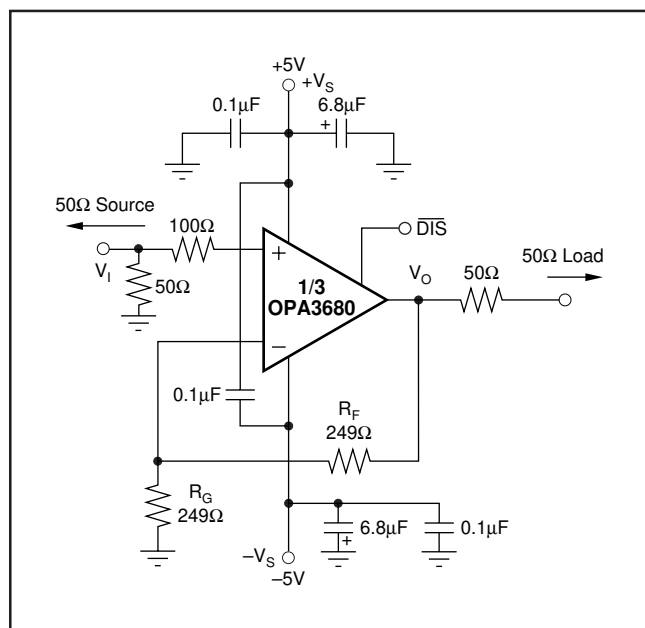
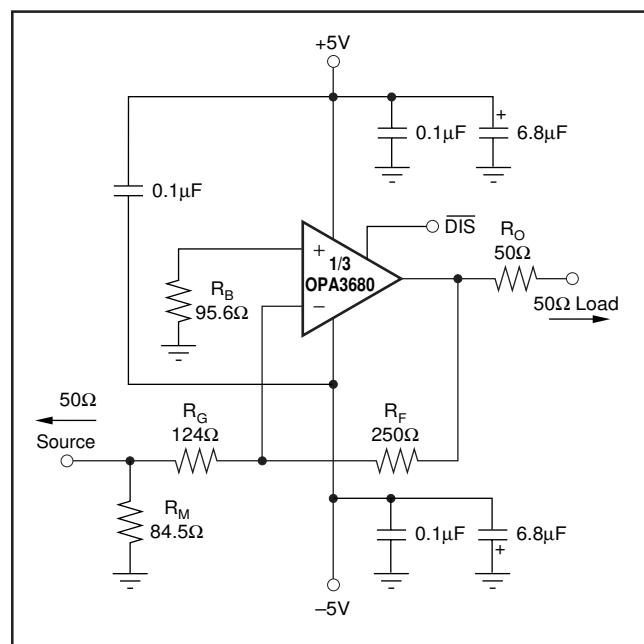

FIGURE 1. DC-Coupled,  $G = +2$ , Bipolar Supply, Specification and Test Circuit.
FIGURE 9. Gain of  $-2$  Example Circuit.
At  $T_A = +25^\circ C$ ,  $G = +2$ ,  $R_F = 250\Omega$ , and  $R_L = 100\Omega$ , unless otherwise noted. See Figure 1.
Figure 1 shows the DC-coupled, gain of +2, dual power supply circuit configuration used as the basis of the  $\pm 5\text{V}$  Specifications and Typical Performance Curves. For test purposes, the input impedance is set to  $50\Omega$  with a resistor to ground and the output impedance is set to  $50\Omega$  with a series output resistor. Voltage swings reported in the specifications are taken directly at the input and output pins, while output powers (dBm) are at the matched  $50\Omega$  load. For the circuit of Figure 1, the total effective load will be  $100\Omega \parallel 498\Omega$ . The disable control line is typically left open to guarantee normal amplifier operation. Two optional components are included in Figure 1. An additional resistor ( $100\Omega$ ) is included in series with the non-inverting input. Combined with the  $25\Omega$  DC source resistance looking back towards the signal generator, this gives an input bias current cancelling resistance that
A good rule of thumb is to target the parallel combination of  $R_F$  and  $R_G$  (Figure 1) to be less than approximately  $125\Omega$ . The combined impedance  $R_F \parallel R_G$  interacts with the inverting input capacitance, placing an additional pole in the feedback network and thus, a zero in the forward response. Assuming a  $3pF$  total parasitic on the inverting node, holding  $R_F \parallel R_G < 125\Omega$  will keep this pole above  $400MHz$ . By itself, this constraint implies that the feedback resistor  $R_F$  can increase to several  $k\Omega$  at high gains. This is acceptable as long as the pole formed by  $R_F$  and any parasitic capacitance appearing in parallel with it is kept out of the frequency range of interest.
Voltage-feedback op amps exhibit decreasing closed-loop bandwidth as the signal gain is increased. In theory, this relationship is described by the Gain Bandwidth Product (GBP) shown in the specifications. Ideally, dividing GBP by the non-inverting signal gain (also called the Noise Gain, or NG) will predict the closed-loop bandwidth. In practice, this only holds true when the phase margin approaches  $90^\circ$ , as it does in high gain configurations. At low gains (increased feedback factors), most amplifiers will exhibit a more complex response with lower phase margin. The OPA3680 is compensated to give a slightly peaked response in a non-inverting gain of 2 (Figure 1). This results in a typical gain of +2 bandwidth of  $220MHz$ , far exceeding that predicted by dividing the  $300MHz$  GBP by 2. Increasing the gain will cause the phase margin to approach  $90^\circ$  and the bandwidth to more closely approach the predicted value of  $(GBP/NG)$ . At a gain of +10, the  $30MHz$  bandwidth shown in the Typical Specifications agrees with that predicted using the simple formula and the typical GBP of  $300MHz$ .
Frequency response in a gain of +2 may be modified to achieve exceptional flatness simply by increasing the noise gain to 2.5. One way to do this, without affecting the +2 signal gain, is to add a  $453\Omega$  resistor across the two inputs in the circuit of Figure 1. A similar technique may be used to reduce peaking in unity gain (voltage follower) applica-
Since the OPA3680 is a general purpose, wideband voltage feedback op amp, all of the familiar op amp application circuits are available to the designer. Inverting operation is one of the more common requirements and offers several performance benefits. Figure 9 shows a typical inverting configuration where the I/O impedances and signal gain from Figure 1 are retained in an inverting circuit configuration.
advantage that the noise gain becomes equal to 2 for a 50Ω source impedance—the same as the non-inverting circuits considered above. However, the amplifier output will now see the 100Ω feedback resistor in parallel with the external load. In general, the feedback resistor should be limited to the 100Ω to 1.5kΩ range. In this case, it is preferable to increase both the  $R_F$  and  $R_G$  values as shown in Figure 9 and then achieve the input matching impedance with a third resistor ( $R_M$ ) to ground. The total input impedance becomes the parallel combination of  $R_G$  and  $R_M$ .
The second major consideration, touched on in the previous paragraph, is that the signal source impedance becomes part of the noise gain equation and hence influences the bandwidth. For the example in Figure 9, the  $R_M$  value combines in parallel with the external 50Ω source impedance, yielding an effective driving impedance of  $50\Omega \parallel 84.5\Omega = 31.4\Omega$ . This impedance is added in series with  $R_G$  for calculating the noise gain (NG). The resultant NG is 2.6 for Figure 9, as opposed to only 2 if  $R_M$  could be eliminated as discussed above. The bandwidth will therefore be slightly lower for the gain of  $-2$  circuit of Figure 9 than for the gain of  $+2$  circuit of Figure 1.
The third important consideration in inverting amplifier design is setting the bias current cancellation resistor on the non-inverting input ( $R_B$ ). If this resistor is set equal to the total DC resistance looking out of the inverting node, the output DC error, due to the input bias currents, will be reduced to (Input Offset Current) •  $R_F$ . If the 50Ω source impedance is DC-coupled in Figure 9, the total resistance to ground on the inverting input will be 155Ω. Combining this in parallel with the feedback resistor gives the  $R_B = 95.6\Omega$  used in this example. To reduce the additional high frequency noise introduced by this resistor, it is sometimes bypassed with a capacitor. As long as  $R_B < 350\Omega$ , the capacitor is not required since the total noise contribution of all other terms will be less than that of the op amp's input noise voltage. As a minimum, the OPA3680 requires an  $R_B$  value of 50Ω to damp out parasitic-induced peaking—a direct short to ground on the non-inverting input runs the risk of a very high frequency instability in the input stage.
The distortion plots show which changes in operation will improve distortion. Increasing the load impedance improves distortion directly. Remember that the total load includes the feedback network; in the non-inverting configuration (Figure 1) this is sum of  $R_F + R_G$ , while in the inverting configuration (Figure 9), it is just  $R_F$ . Also, providing an additional supply decoupling capacitor (0.1μF) between the supply pins (for bipolar operation) improves the 2nd-order distortion slightly (3dB to 6dB).
Evaluating these two equations for the OPA3680 circuit and component values shown in Figure 1 will give a total output spot noise voltage of  $11\text{nV}/\sqrt{\text{Hz}}$  and a total equivalent input spot noise voltage of  $5.5\text{nV}/\sqrt{\text{Hz}}$ . This is including the noise added by the bias current cancellation resistor ( $100\Omega$ ) on the non-inverting input. This total input-referred spot noise voltage is only slightly higher than the  $4.8\text{nV}/\sqrt{\text{Hz}}$  specification for the op amp voltage noise alone. This will be the case as long as the impedances appearing at each op amp input are limited to the previously recommend maximum value of  $125\Omega$ . Keeping both ( $R_F \parallel R_G$ ) and the non-inverting input source impedance less than  $125\Omega$  will satisfy both noise and frequency response flatness considerations. Since the resistor-induced noise is relatively negligible, additional capacitive decoupling across the bias current cancellation resistor ( $R_B$ ) for the inverting op amp configuration of Figure 9 is not required.
The balanced input stage of a wideband voltage feedback op amp allows good output DC accuracy in a wide variety of applications. The power supply current trim for the OPA3680 gives even tighter control than comparable products. Although the high speed input stage does require relatively high input bias current (typically  $14\mu\text{A}$  out of each input terminal), the close matching between them may be used to reduce the output DC error caused by this current. The total output offset voltage may be considerably reduced by matching the DC source resistances appearing at the two inputs. This reduces the output DC error due to the input bias currents to the offset current times the feedback resistor. Evaluating the configuration of Figure 1, using worst-case  $+25^\circ\text{C}$  input offset voltage and current specifications, gives